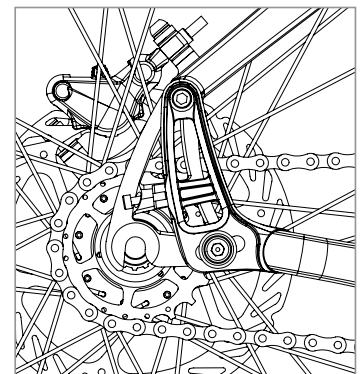

Figure 7
- Turn the driveside tension screw until proper chain tension is achieved and/or adequate tire clearance is reached (Fig 7)